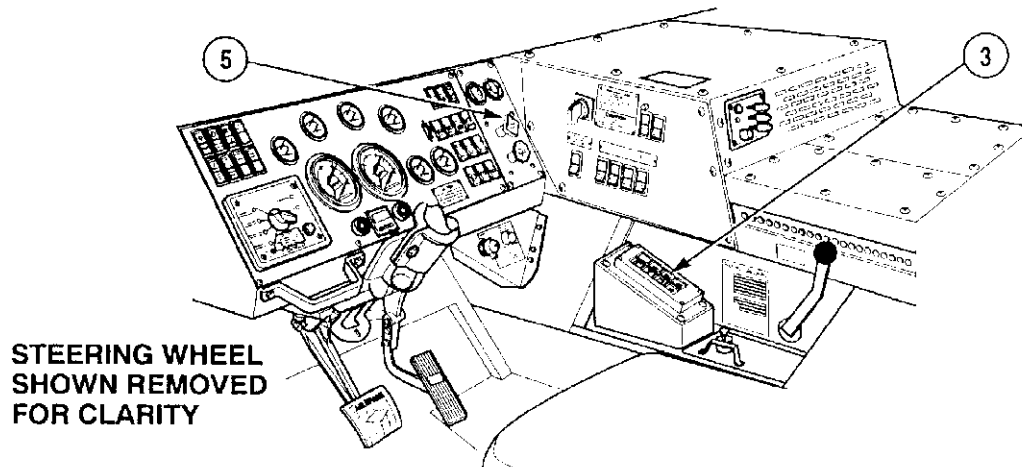

Figure 12. 22 Parking Brake
- 12.8.1.15 After leaving the water, press the service brake pedal (Figure 12. 21. (4)) lightly and hold while driving slowly to dry out the brake linings.
- 12.8.1.17 Apply and release the parking brake (Figure 12. 22. (5)) several times to remove water from brake components.
- 12.8.1.18 If the CTIS EMERGENCY was selected, set the transmission range selector (Figure 12. 22. (3)) to Reverse (**R**).
- 12.8.1.20 Set the transmission range selector (Figure 12. 22. (3)) to Neutral (**N**).